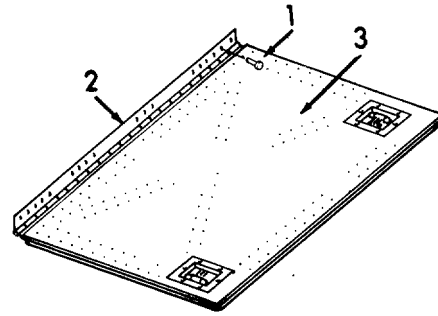

Figure 6-5. Side Door, Removal.
b. Removal. (Refer to Figure 6-5).
- (1) Drill out and remove rivets (1) that secure the door. Do not allow the door (3) to fall.
- (2) Remove the door assembly (2).